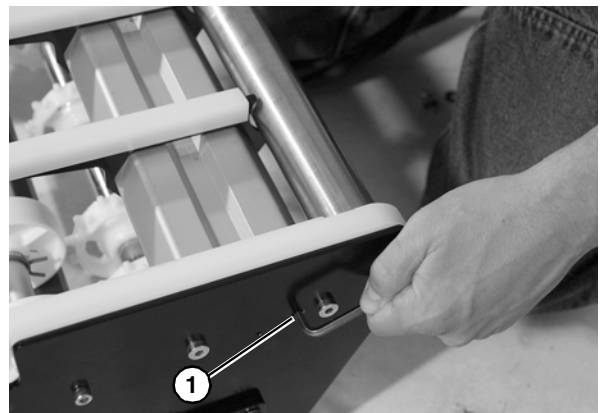

Figure 65
*After installing components and belt, secure assembly by backing out socket head screw (**Figure 65, item 1**). This prevents any rattling of components that may occur during use of conveyor.*
After installing components and belt, secure assembly by backing out socket head screw (**Figure 65, item 1**). This prevents any rattling of components that may occur during use of conveyor.